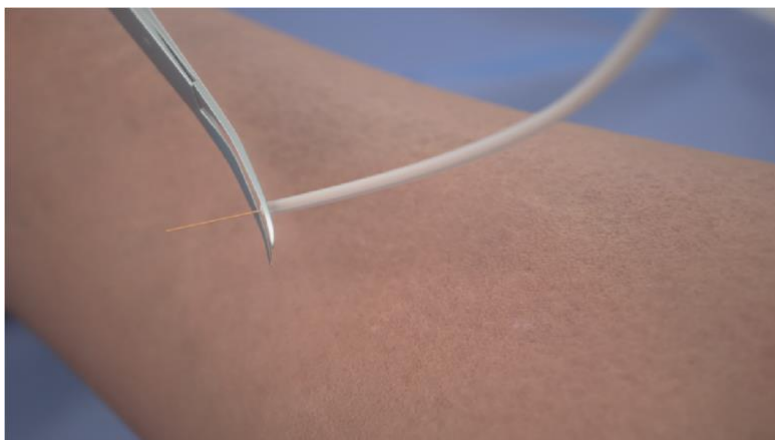

Figure 2
5. With the receiver fully connected, cut the excess portion of the receiver flush with the lumen to decrease the possibility of the receiver disconnecting from the electrode array. (Figure 2)